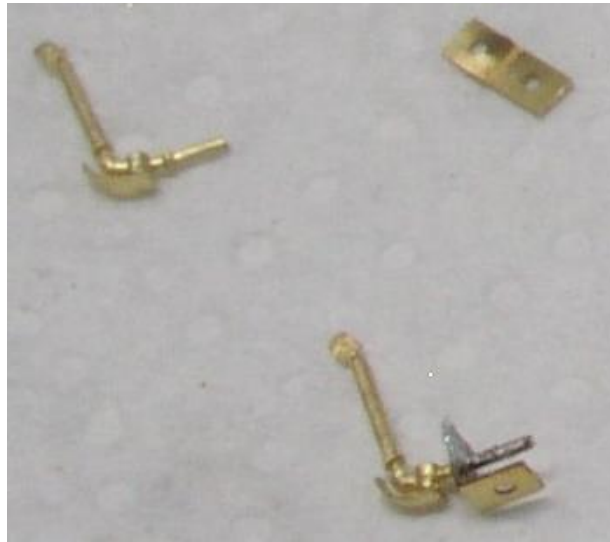

Figure U27
2. Bend the Glad Hand Bracket 90° and attach the glad hand casting. See Figure U27.